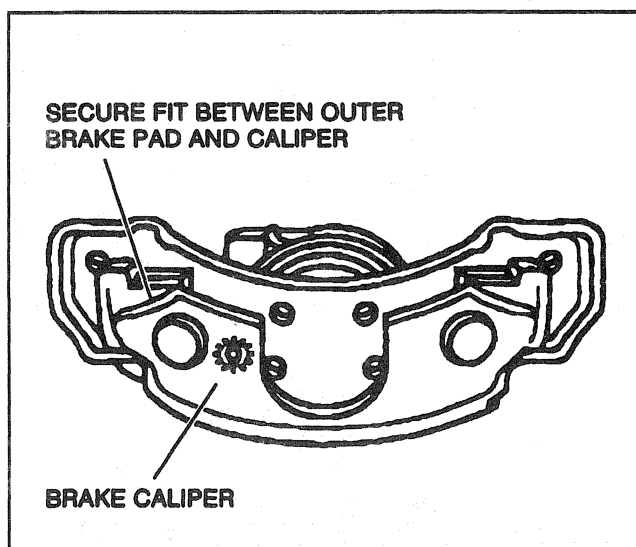

Figure 22—Outer Brake Pad Secured To Caliper
3. Compress the vise as necessary to obtain a secure fit between the outer brake pad and the caliper (Figure 22).